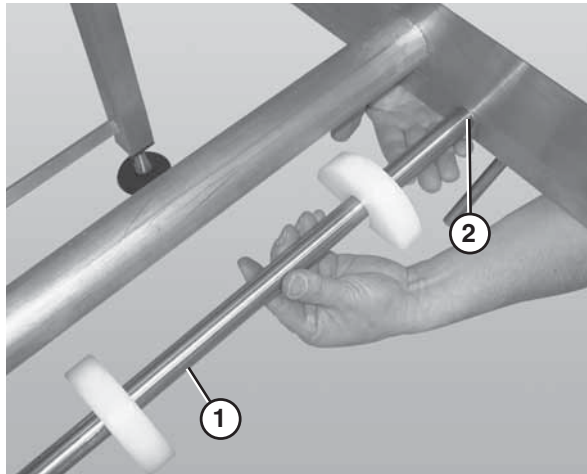

Figure 58
1. Remove the belt returns by pushing up on the return shaft (**Figure 58, item 1**) and sliding it through the large hole (**Figure 58, item 2**) in the frame.
2. Lower the opposite end of the return shaft (**Figure 58, item 1**) and slide it out of the frame.